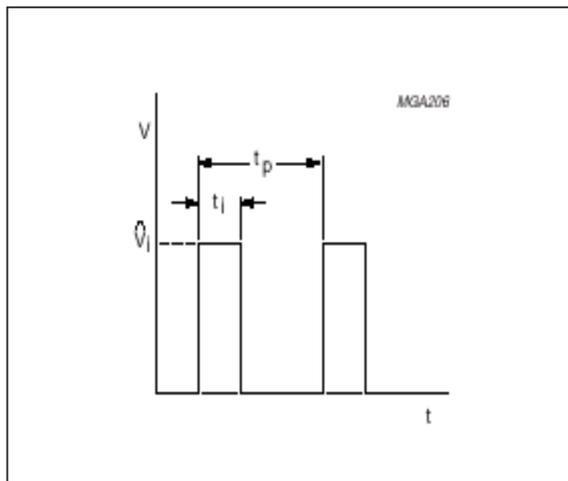

Fig. 8 Rectangular pulse.
- V_i** = applied peak pulse voltage (Figs 8 and 9)